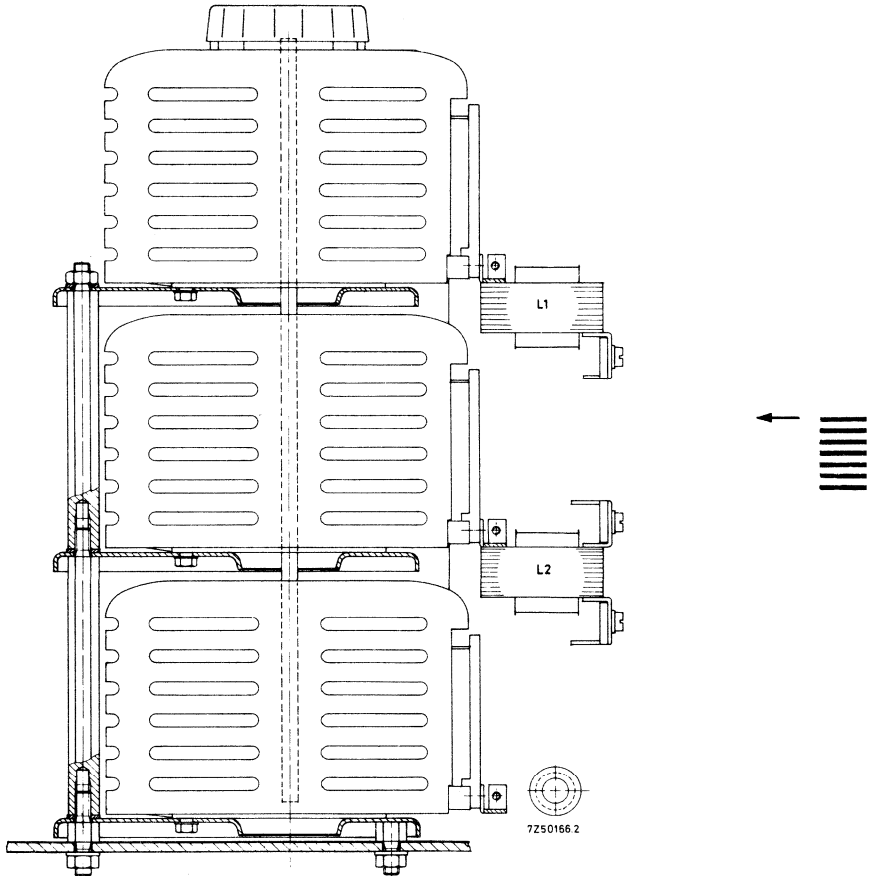

Fig. 6
9. In case of mounting on a panel as shown in Fig. 6, drill mounting holes in accordance with Fig. a (or Fig. d) given below Mechanical Data.
11. For parallel connection of 2 transformers mount choke 2422 532 00014 (L2) as shown in Fig. 6.
For parallel connection of 3 transformers mount chokes 2422 532 00013 and 2422 532 00014 (L1 and L2) as shown in Fig. 6.